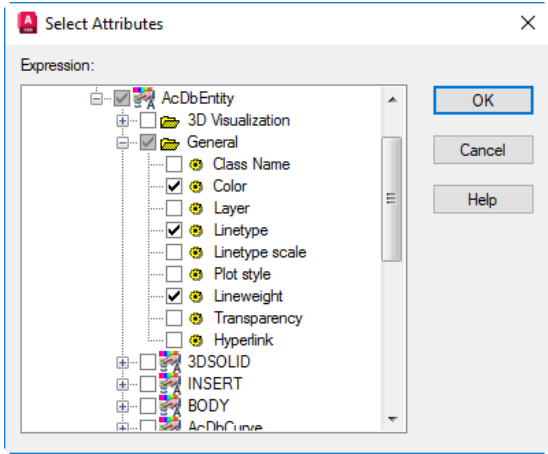

Figure 2-41 The **Select Attributes** dialog box showing various options selected
12. Choose the **Select Attributes** button in the **Export** dialog box, refer to Figure 2-39; the **Select Attributes** dialog box is displayed. Expand the node **Object Properties > AcDbEntity > General**. Select the check box corresponding to the **Color**, **Linetype**, and **Lineweight** options, as shown in Figure 2-41.